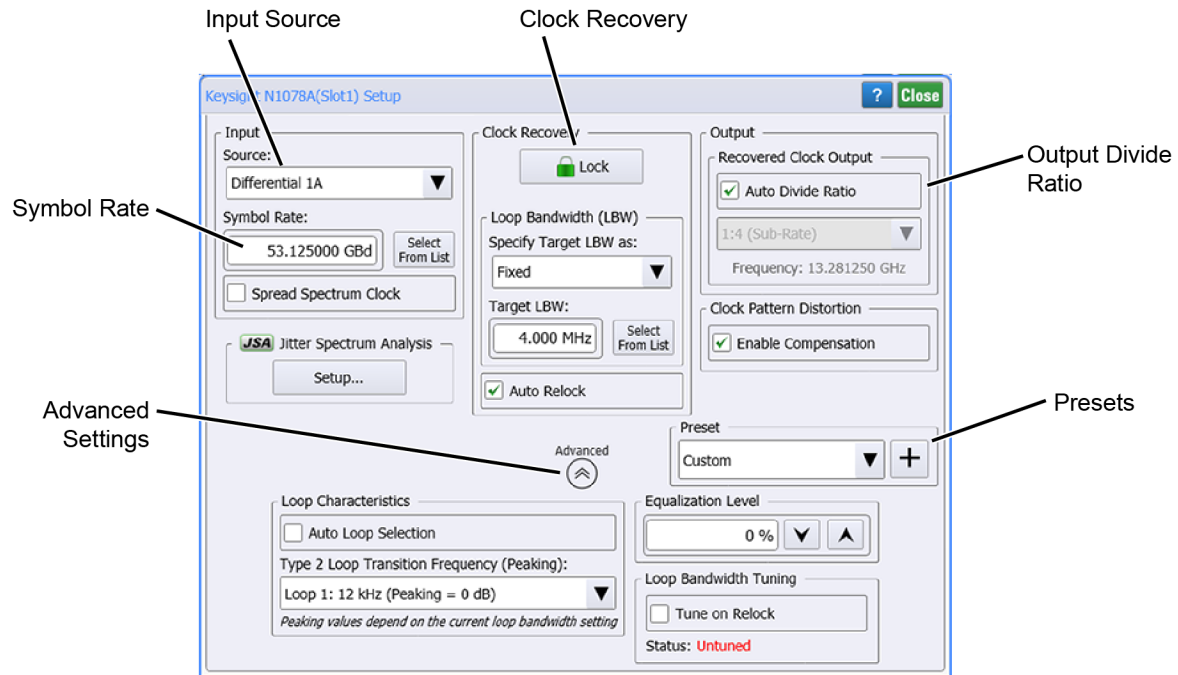

Figure 25. Clock Recovery Setup Dialog
6. Click **Setup** > **Modules** > **(Slot 6): Clock Recovery**. The Setup dialog is shown Figure 25 on page 64. The picture does not show settings required for this procedure.